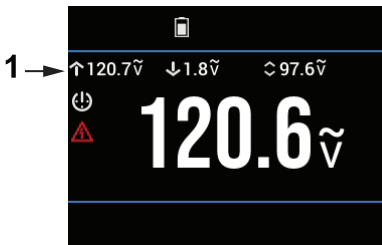

Figure 10.1 Maximum, Minimum, and Average reading display. Item 1, in the figure, shows the row where the reading memories are displayed.
4. The highest, lowest, and average readings (from left to right) will be shown above the main measurement display, as shown in Figure 10.1, below.